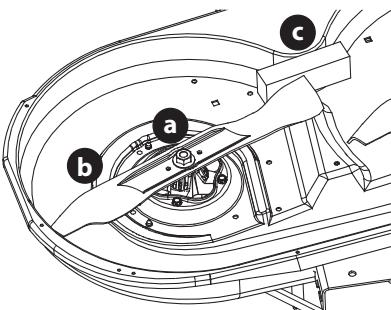

Figure 52
2. Place a block of wood (c) between the deck housing and the cutting edge of the blade (b) to help in breaking loose the hex nut (a) securing the blade (b). Use a 15/16-inch wrench to loosen the hex nut (a) (Figure 52).